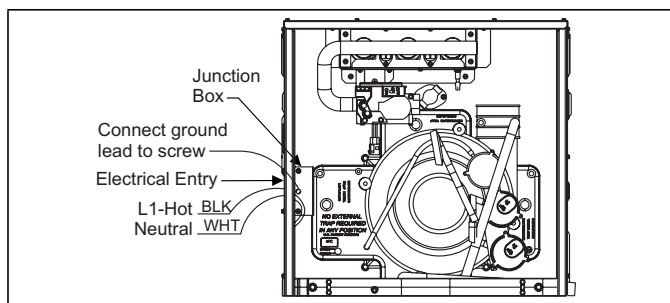

FIGURE 13: Electrical Wiring
- Remove the wiring box cover screws. Route all power wiring through a conduit connector or other proper bushing that is field installed into the unit opening and the junction box. In the junction box there is a black wire, a white wire and a green ground screw. Connect the power supply as shown on the unit's wiring label located on the inside of the blower compartment door, or the wiring schematic in this section. Connect the black wire to L1 (hot) from the power supply. Connect the white wire to neutral. Connect the ground wire (installer-supplied) to the green (equipment ground) screw. An alternate wiring method is to use a field-provided 2" (5.1 cm) x 4" (10.2 cm) box and cover on the outside of the furnace. Route the furnace leads into the box using a protective bushing where the wires pass through the furnace panel. After making the wiring connections replace the wiring box cover and screws. Refer to Figure 13.
- The furnace's control system requires correct polarity of the power supply and a proper ground connection. Refer to Figure 13.